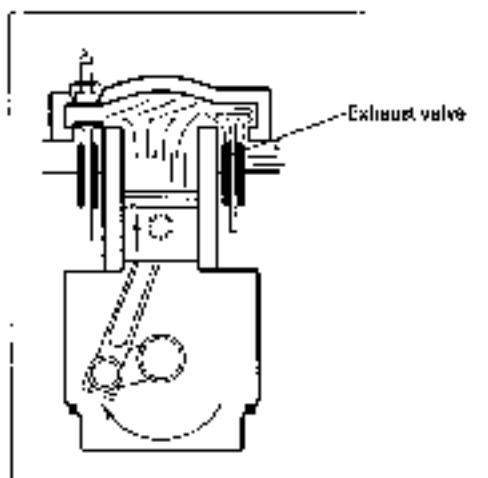

Figure 6-17:
4. **Exhaust stroke:** (See Figure 6-17.) The piston moves up again, pushing the burned gases up with it. Then the exhaust valve opens and lets the burned gases out into the exhaust manifold. From there, the burned gases travel through the exhaust system (which, on newer cars, includes anti-pollution devices), through the muffler, and out the tailpipe into the environment.